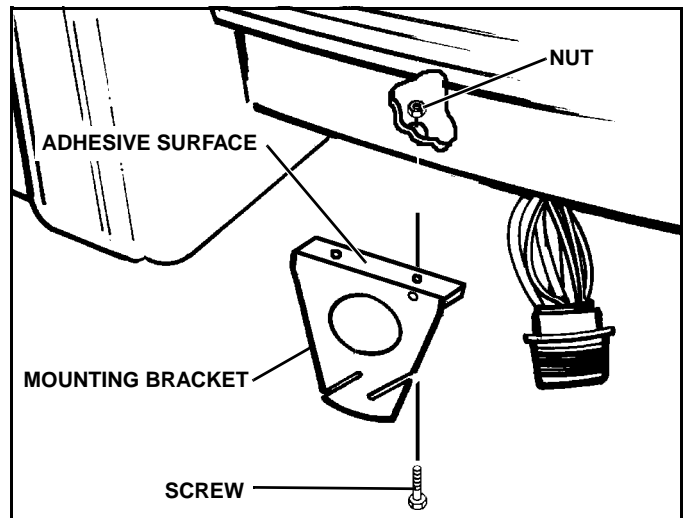

Figure 1-2
minutes. For permanent mounting, drill two (2) 9/32" holes into the mounting surface using the holes in the bracket as a template, and secure with two (2) 1/4" bolts and nuts. (See Figure 1-2)